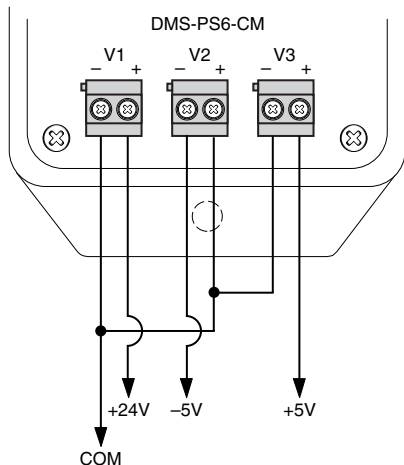

Figure 5. Bipolar Connections
- 2. Bipolar Operation (See Figure 5):** DMS-PS-CM power supplies' fully isolated outputs allow for the generation of bipolar (positive and negative) supply voltages. Bipolar outputs can be used to power dual-supply operational amplifiers, as well as any other type of instrumentation that requires bipolar supply voltages. However, please keep in mind that when connecting and operating any two outputs in this fashion, each output retains its maximum current rating.